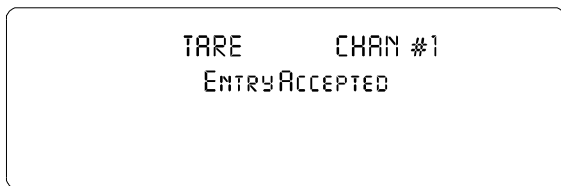

FIG. 3-9 TARE MENU/ENTRY ACCEPTED
- A brief “Entry Accepted” displays. (See Fig. 3-9)